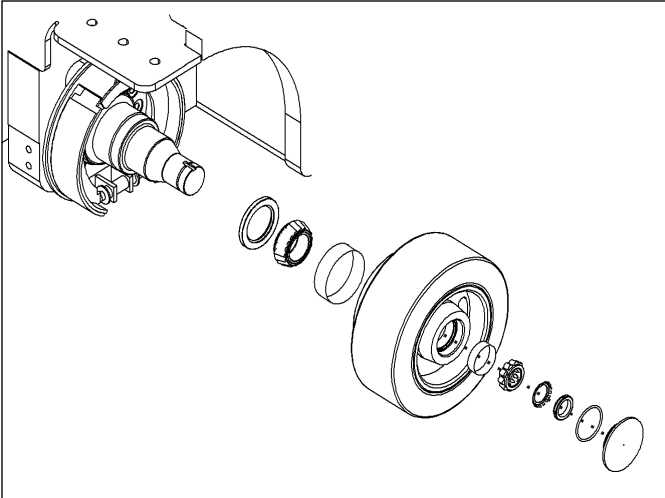

Figure 2-3 Load Wheel Bearing Assembly
5. To remove the wheel pry off wheel hub cover. Bend back tangs on the lock washer to free them from the notches in the wheel spindle nut. **See Figure 2-3.**